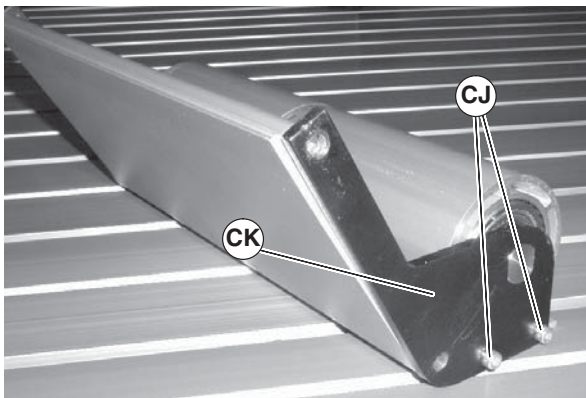

Figure 72
4. Remove screws (Figure 72, item CJ) and idler guide side plate (CK).